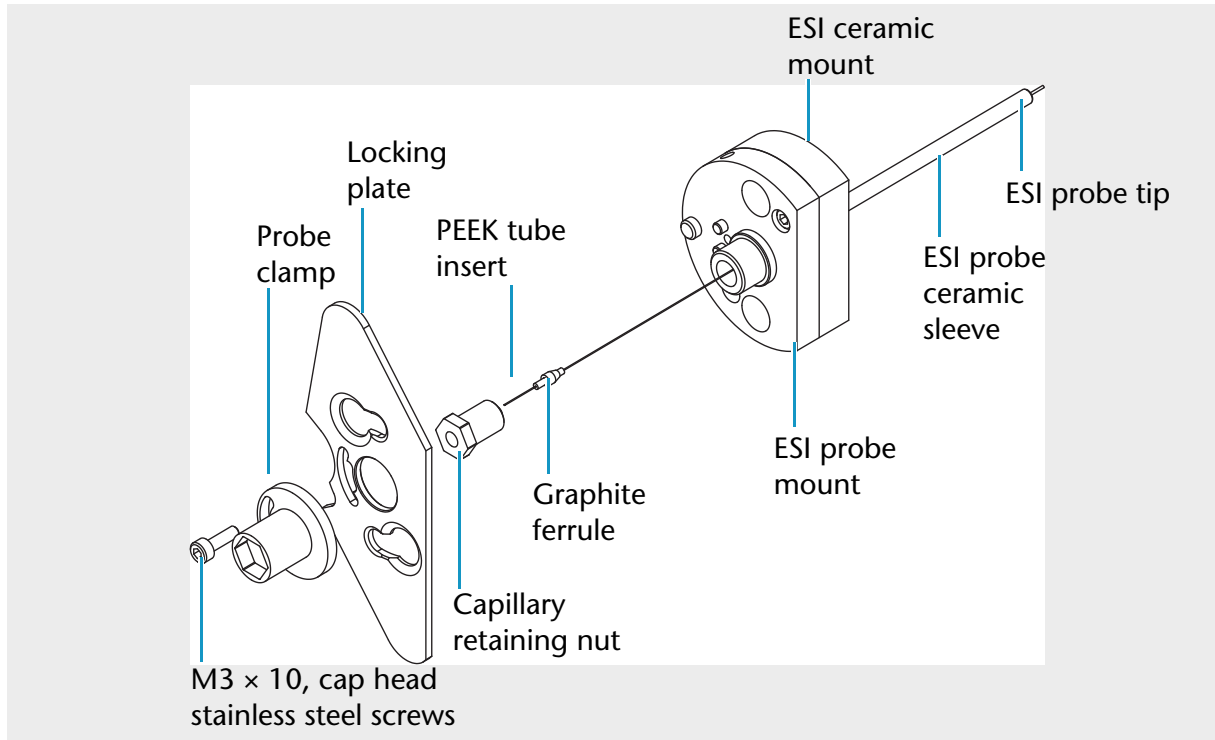

Fig. 38 Partially disassembled ESI probe with capillary removed
3. Use the 2.5 mm Allen key to unscrew the two M3 × 8 cap head stainless steel screws from the ESI probe mount. See Figure 38.